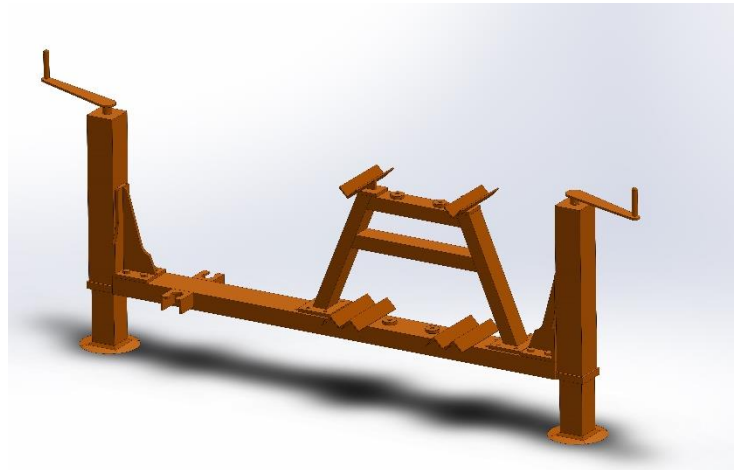
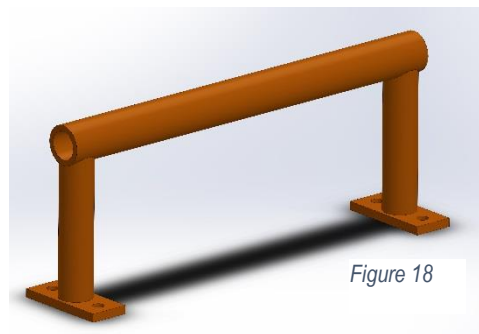

Figure 17
Figure 18
To carry out horizontal drilling, the Tigerline II rock drill must be converted to a Tigerline II Horizontal rock drill. This is done by means of the following accessories: 2 stands (Fig. 17); 1 column support (fig. 18)
3. Position the column support pipe for horizontal drilling on the carriage supports, as in spider positioning for vertical drilling. (Figure 18).